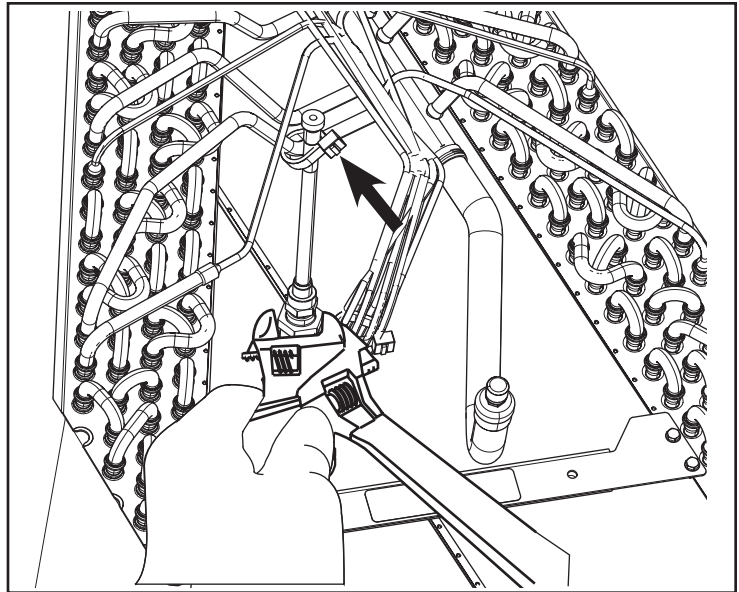

Figure 15 – Remove stub fitting
6. Using two adjustable wrenches, remove the stub tube assembly as shown in Figure 15 and discard.